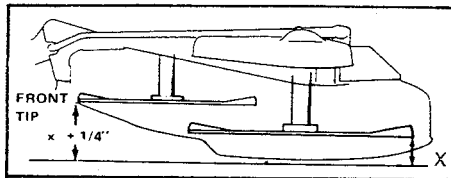

Figure 34. Levelling Mower
note that measurement. (See figure 34).
4. Measure the distance to the ground from the rear tips of the left and right blades. Compare these measurements with the measurement from the front tip of the center blade. The front tip of the center blade should be 1/4 inch (6 mm) higher than the rear tips of the side blades (figure 34).